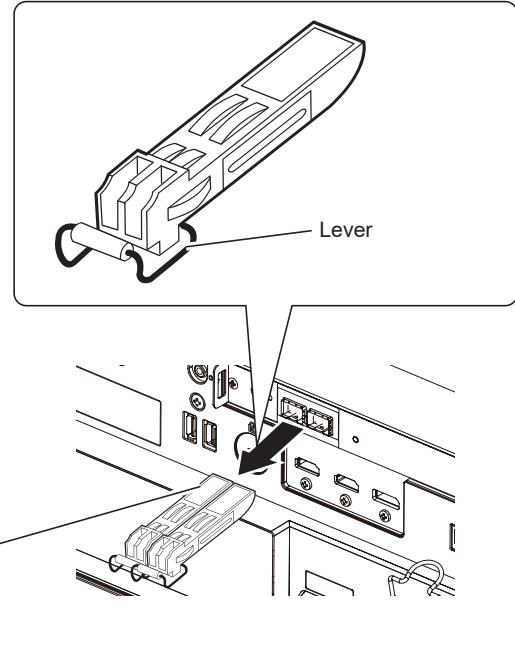

Fig. 2
3) Remove the SFP module. (Fig. 2)